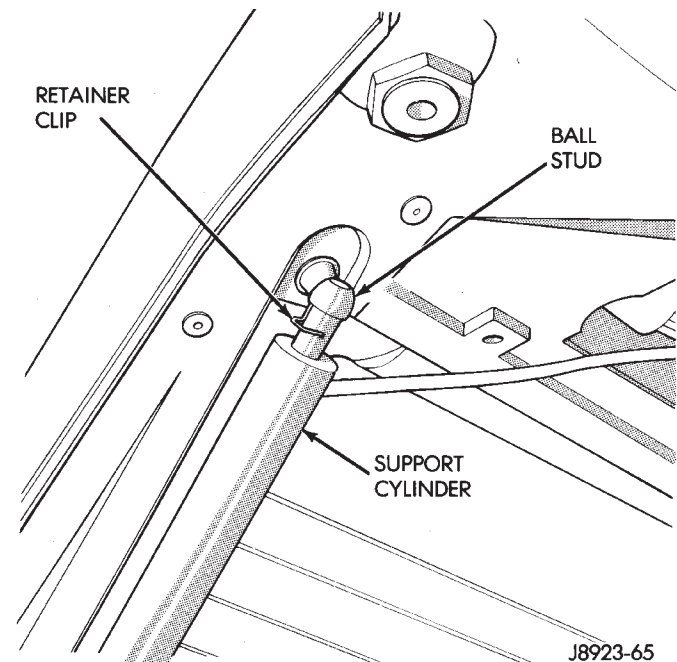

Fig. 127 Support Rod Retainer Clip
- (1) Open the liftgate.
- (2) Support the liftgate in the open position.
- (3) Remove the clips that attach the support rod and cylinder to the ball studs (Fig. 127).